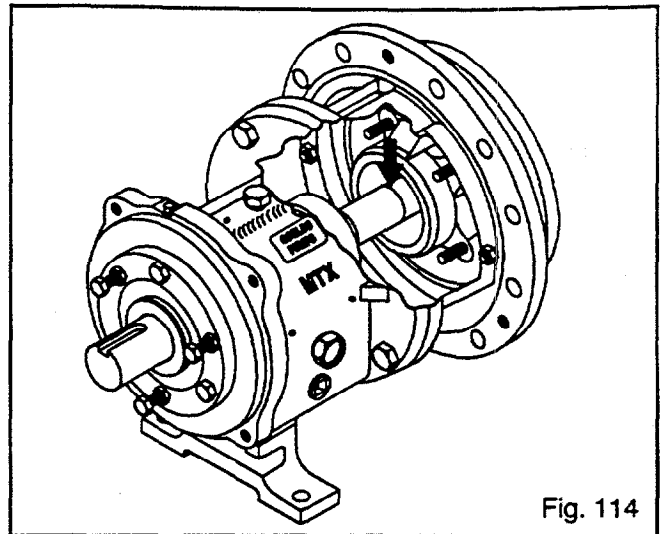

Fig. 114
- Blue the shaft sleeve (126) or shaft (122) if no sleeve is used. Scribe a mark at gland gasket face of seal chamber/stuffing box cover (184). This will be the datum for installation of mechanical seal (Fig. 114).